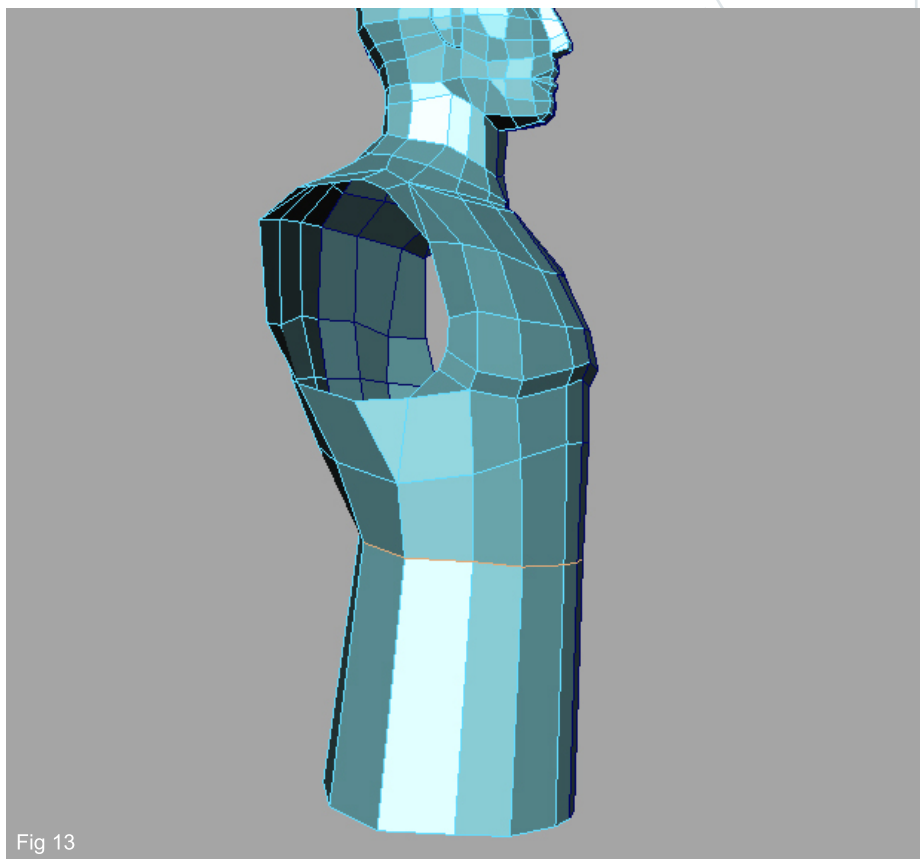

Fig 13
13. Extrude the lower edges one more time but this time a bit more. "Fig 13"